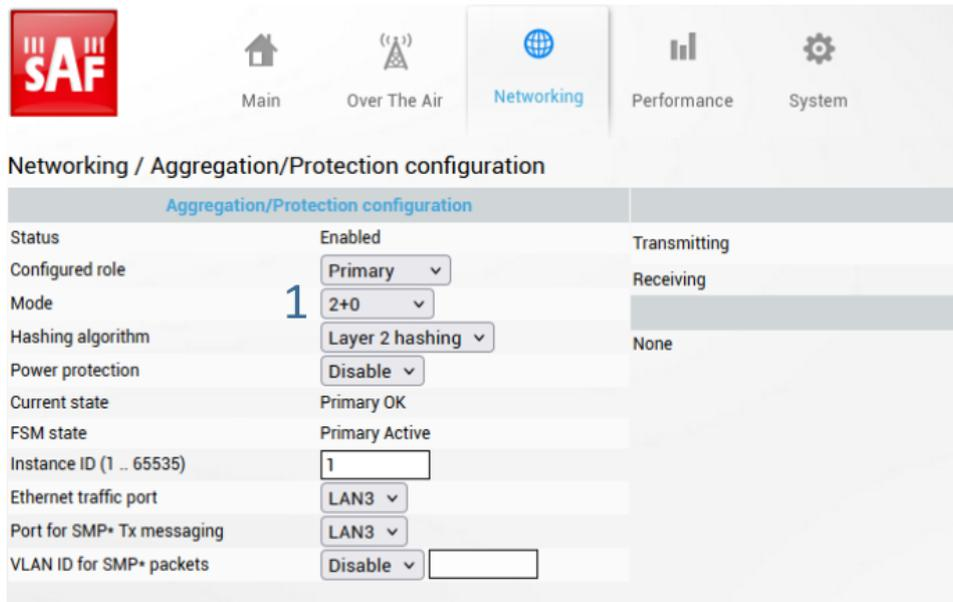

Figure 6-31 4+0 aggregation configuration on Networking /Aggregation/Protection page
STEP2: Aggregation configuration on the Networking /Aggregation/Protection page, please see *Figure 6-31*.